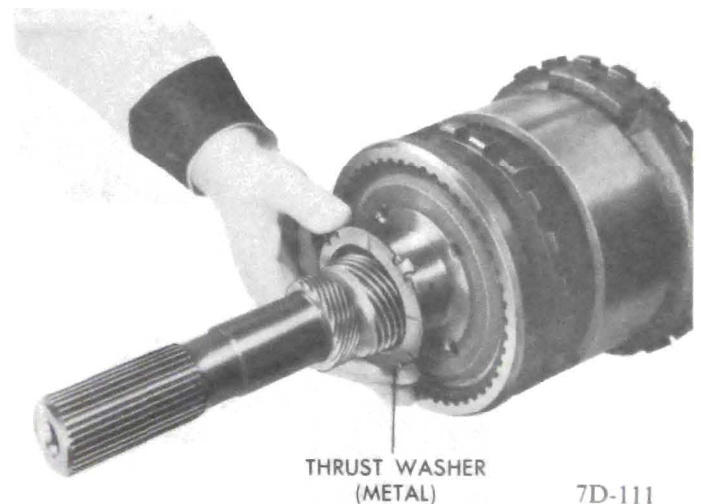

Figure 7D-89
11. Lubricate with petroleum jelly and install reaction carrier to output carrier thrust washer with tabs facing down in pockets. See Figure 7D-90.